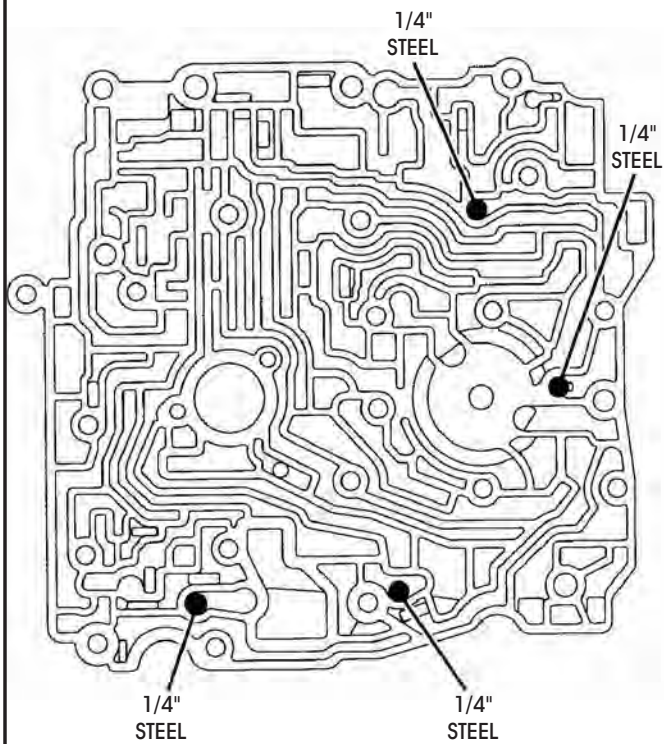

Figure 201
71. Install the checkballs in channel plate pockets in the locations shown in Figure 201.